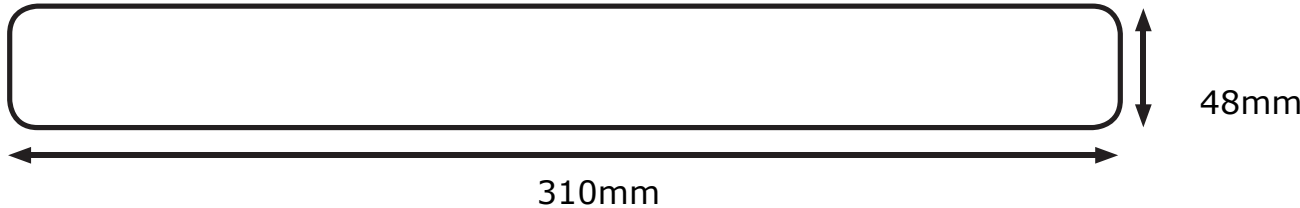

FIG1
- Cut a suitable aperture in the ceiling as per the cut-out details in Fig 1 ensuring that it does not infringe with electrical cables, water/gas pipes or ceiling joists.